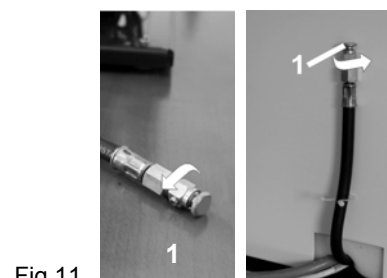

Fig.11
Compressors (Fig.11, Fig.12)
If the compressor will not be used for a prolonged time period, drain any condensate from the air tank. Then turn on the compressor for 10 minutes, keeping the drain valve open (1) (Fig.11, Fig.12). Switch off the compressor by switch (3) at pressure switch (2) (Fig.10), close the drain valve and disconnect the appliance from the mains.
- Release air pressure in the pressure tank by opening the drain valve (1) (Fig.11, Fig.12).